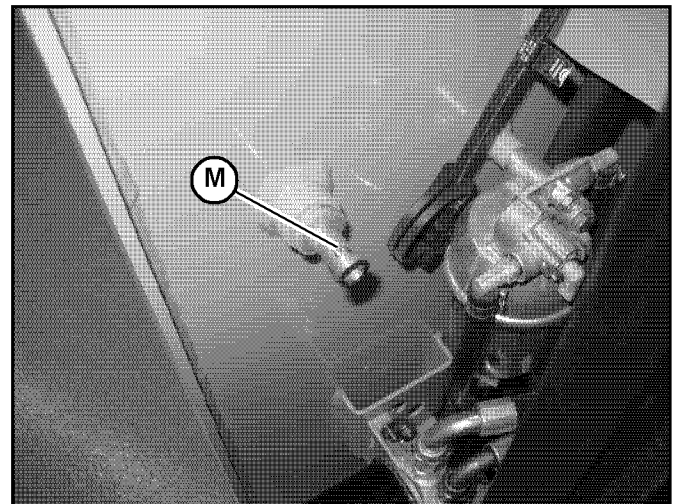

Fig. 73 – Chassis Ground/Rear Door Catch
- Connect the free end of the positive jumper cable to the positive (+) terminal (P) on the booster battery
- Connect the negative jumper cable to the negative (-) terminal (N) on the booster battery.
- Open the rear door of the engine compartment (“Engine Access” on page 113) and connect the free end of the negative jumper cable to the rear door catch (M, Fig 73) in the engine compartment.